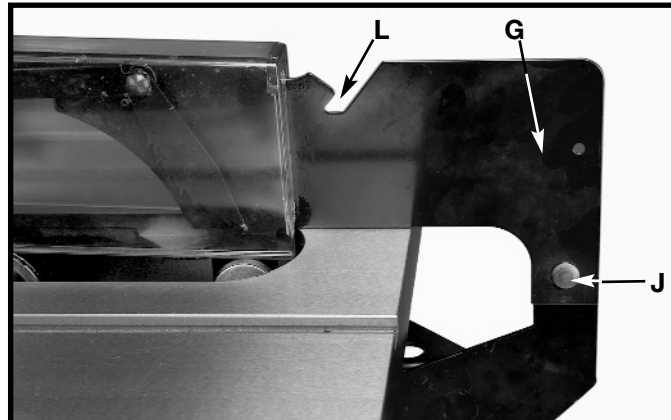
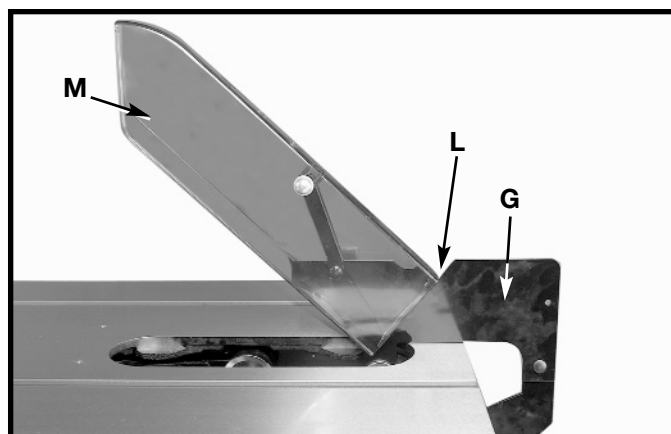

Fig. 20
Fig. 21
8. Fasten the rear of the blade guard and splitter bracket assembly (G) Fig. 20, to the rear splitter mounting bracket using 5/16-18 x 5/8" carriage bolt (J), 5/16" flat washer and 5/16-18 hex nut. Align the hole in the rear of the blade guard with the hole in the splitter bracket. Insert the 5/16-18x5/8" carriage bolt through the holes. Place flat washer onto the bolt, then place nut on bolt and tighten.
IMPORTANT: The splitter (G) Fig. 20, has a notch (L) cut in the top edge. This feature will enable the blade guard to stay in the raised position when the table insert is removed to make blade changing easier. Raise the front of blade guard (M) Fig. 21, until the rear edge of the blade guard slips into notch (L) of splitter (G); the blade guard will stay in this position.